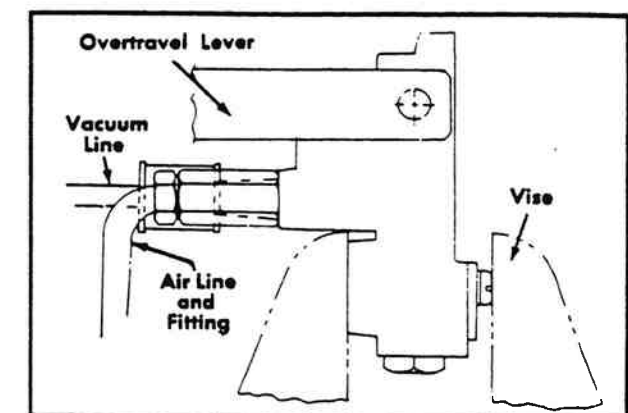

Figure 12-14. Valve Position for Time Delay Check.
- Place valve assembly vertically in holding vise. Refer to Figure 12-14.